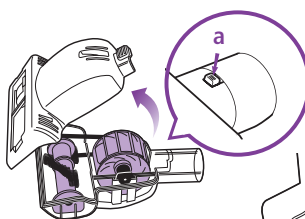

Fig. 28
- 1 Slide the locking latch (a) forward and tilt the bottom cover upward to remove. (Fig. 28)